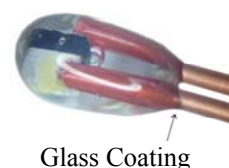

Figure 3. Glass Coating on the Leads
1. Do not bend the thermistor leads on the location that is too close to the thermistor, to avoid breaking the glass coating as shown in Figure 3 below on the leads near the thermistor's body. Only bend the leads at the location that is at least 2mm away from the thermistor body.